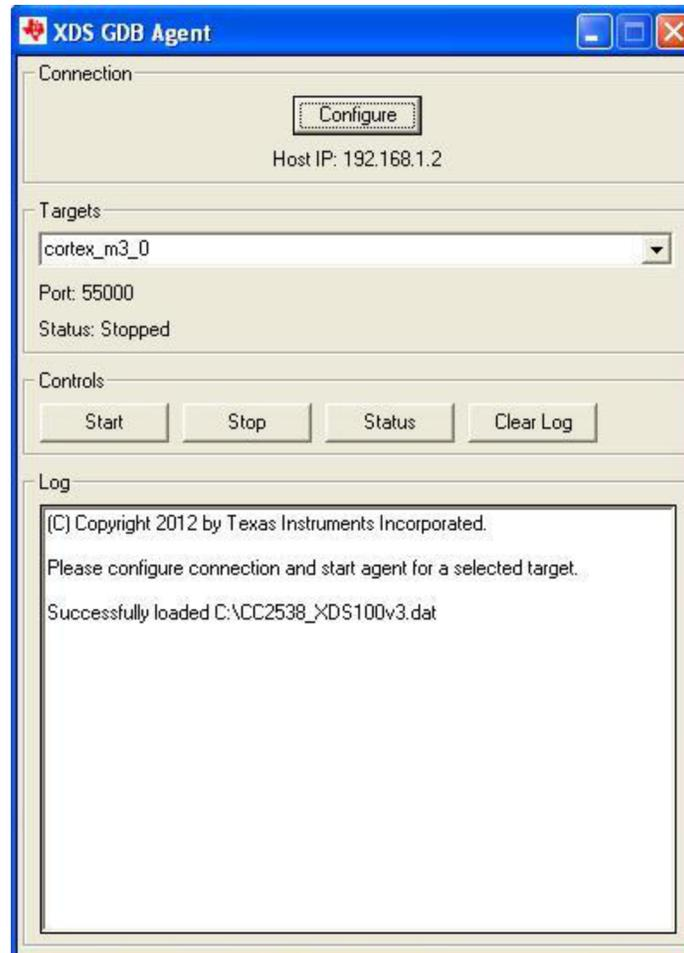

Figure 17. Launching the GDB Server (Windows)
3. Press the 'Start' button (see Figure 17). The GDB server agent is now started.